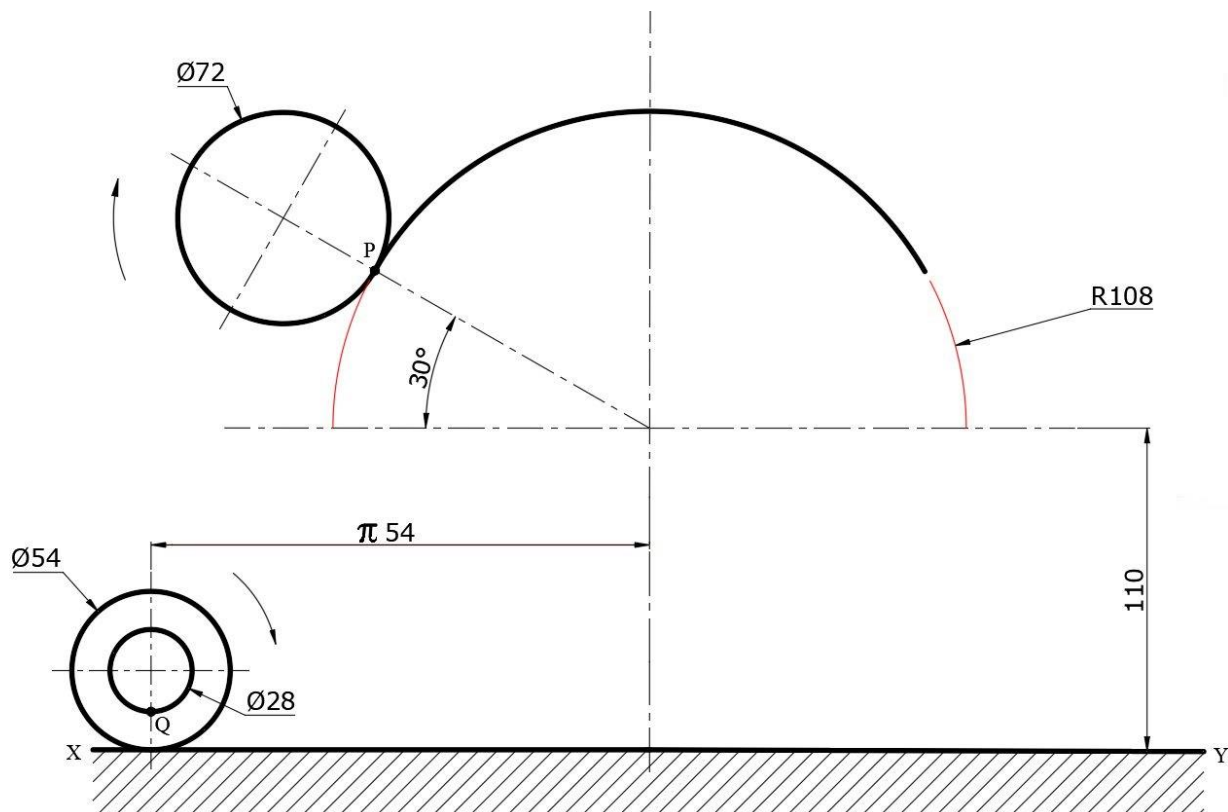

Figure 1b
A parasailing logo is shown in Figure 1a. The icon consists mainly of two cycloidal curves which form the top of the parasail and the sea wave. The arrangements of the rotating circles, the generating circles, the directing arc and the directing line are given in Figure 1b. The cycloidal curves are generated as follows:
- copy Figure 1b; (1)
- plot the locus of point 'Q'; (5)
- plot the locus of point 'P'; (6)
- name the two curves generated. (1)